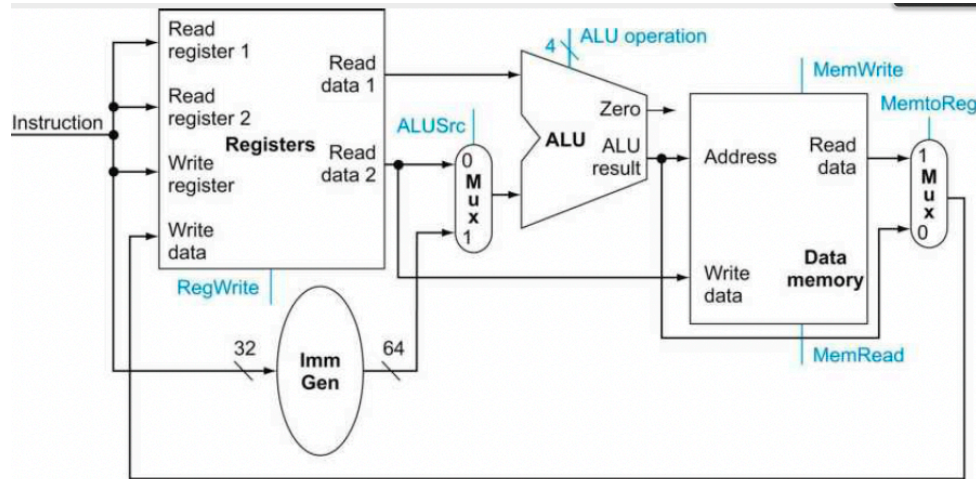

FIGURE 4.10 The datapath for the memory instructions and the R-type instructions.
4.1.1 What are the values of control signals generated by the control in Figure 4.10 for this instruction?